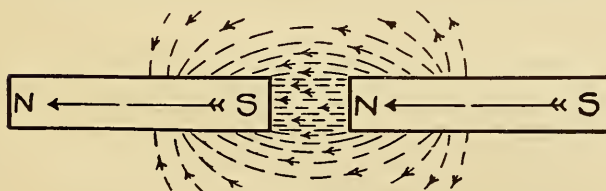

FIG. 8
10. To show attraction of unlike poles and repulsion of like poles, sprinkle iron filings on a paper. Bring two like poles up close to the paper just beneath the iron filings, keeping the poles at least an inch apart. See Fig. 7, page 27. The iron filings will present the appearance of two jets of water being forced against each other. If two unlike poles are placed beneath the paper, in the same positions as that of the like poles, the iron filings will form in strings or cords between the two unlike poles. See Fig. 8, page 27.